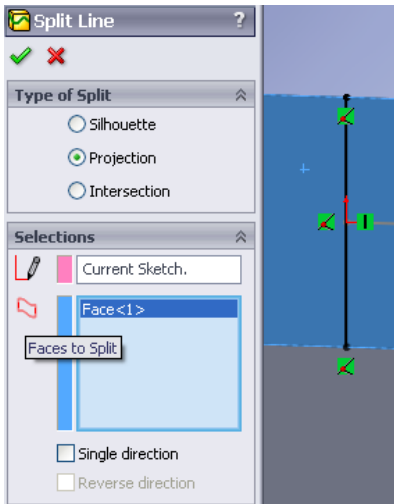

Figure 2.11b) Selection of surface for the split line
11. Select **Insert>>Curve>>Split Line...** from the SolidWorks menu. For **Faces to Split**, select the surface where you have drawn your split line, see figure 2.11b). Close the dialog . You have now finished the part for the flat plate boundary layer. Select **File>>Save** from the SolidWorks menu.